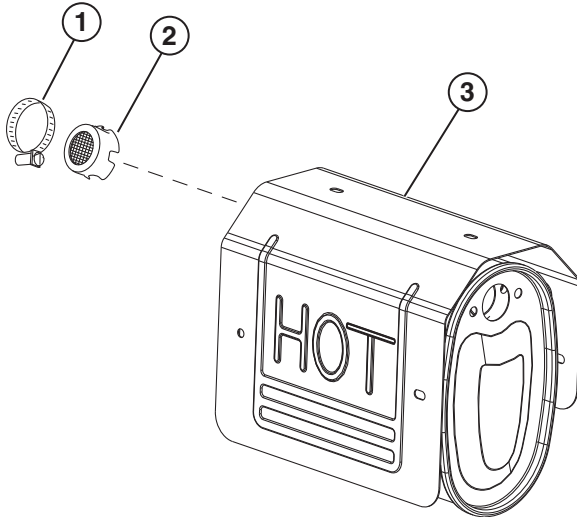

Figure 7-19 – Spark Arrestor Assembly
3. Using a flathead screwdriver, loosen the spark arrestor band clamp (see Figure 7-19).